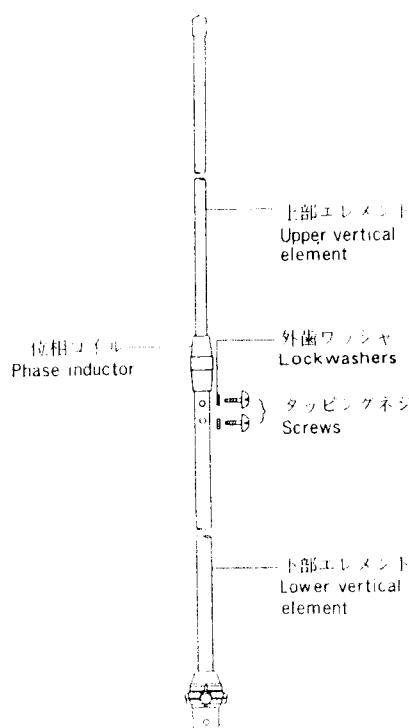

Fig. 1
- Attach upper vertical element to lower vertical element with screws as shown in Fig. 1.